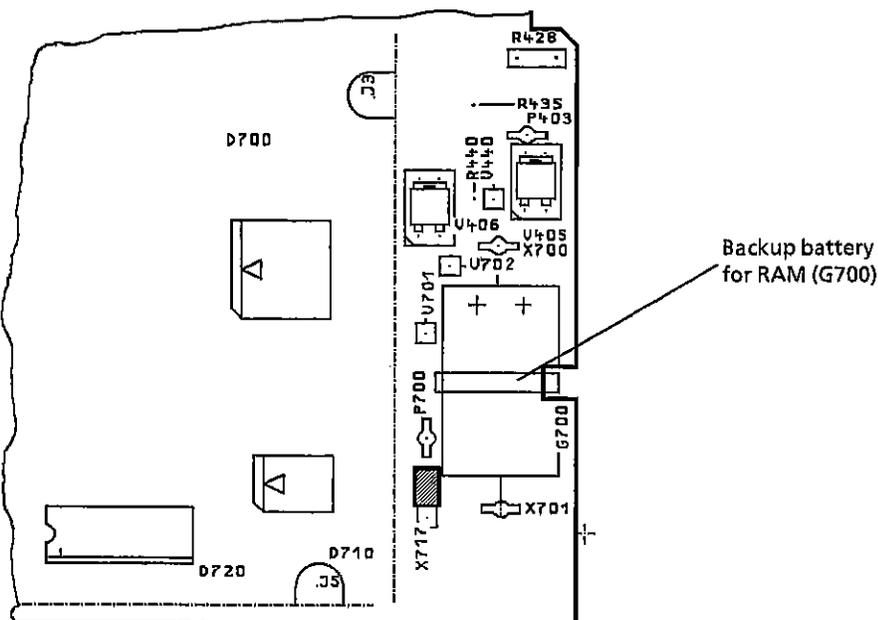

Fig. 4-1 Position of the backup battery on the main board
- Measure the battery voltage after connection of a digital voltmeter to soldering terminals X700 and X701. Make sure not to produce a short-circuit from the positive battery terminal X700 to ground (Fig. 4-1).